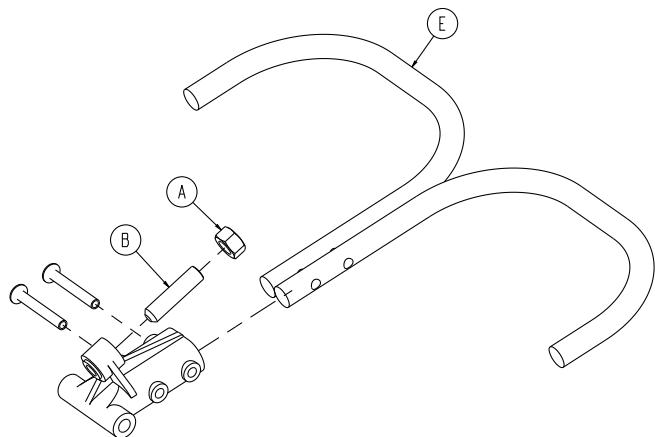

Figure 11 – Loosen the hex nut
- Using a 1/2" combination wrench, loosen the hex nut (A) on the Fowler release handle pivot while using a 5/32" hex wrench to hold the set screw (B) fixed in the pivot (Figure 11).
- Using a 5/32" hex wrench, turn the set screw until there is no movement between the Fowler release handle (E) and the pneumatic cylinder release button (Figure 11).